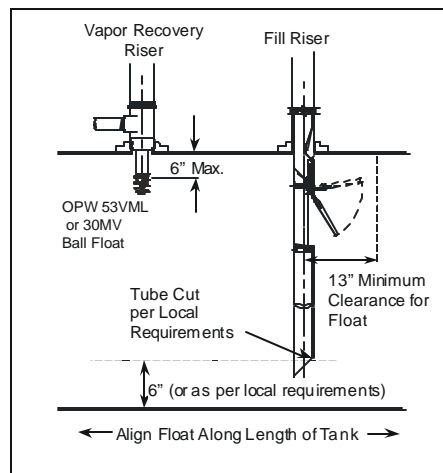

Figure 16
requirements. Determine dimension (B) from the measurements taken in Step 1, Figure 1 (Top of the FSA-400 below the drain valve outlet in the spill container to the bottom of the tank). Saw off the excess tube at a 45-degree angle and file off any sharp burrs (Refer to Figure 16). Optional: Install the OPW/POMECO Tank Bottom Protector on the lower tube (Refer to Installation instructions supplied with the 6110 Tank Bottom Protector).